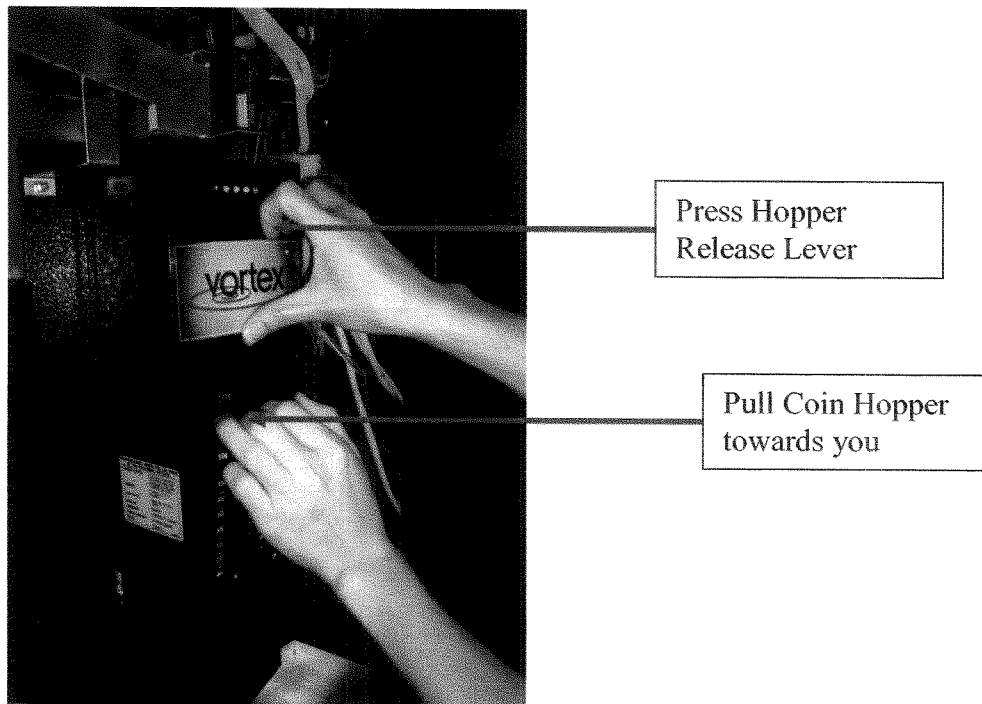

Figure 22 – Once coin hopper is open coins can be loaded.
- a. Load coins into the “hopper” by pressing “hopper” release button and pulling “hopper” towards you. This is the fast way to load coins (*reference figure 22*).